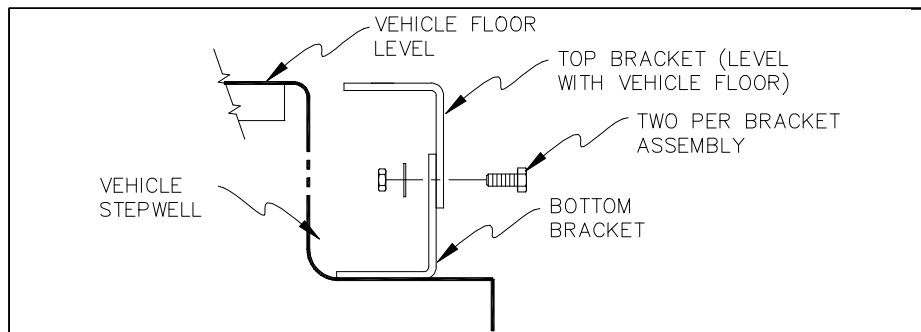

FIGURE 2-3: STEPWELL BRACKET
- Refer to **Figure 2-3**. Using four 1" x 3/8" bolts, 3/8" washers, 3/8" lock washers and 3/8" hex nuts, assemble two bracket assembly kits.